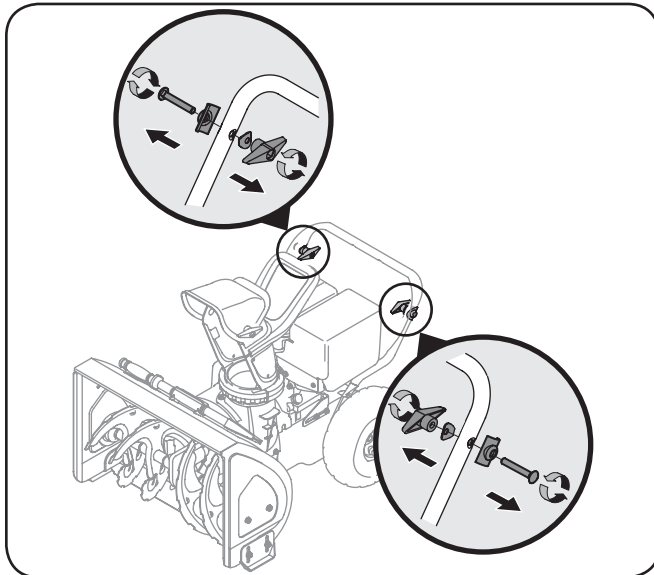

Figure 3-1
2. Loosen and remove the wing knob, saddle washer, handle tab and carriage screw on each side of the lower handle. See Fig. 3-1.